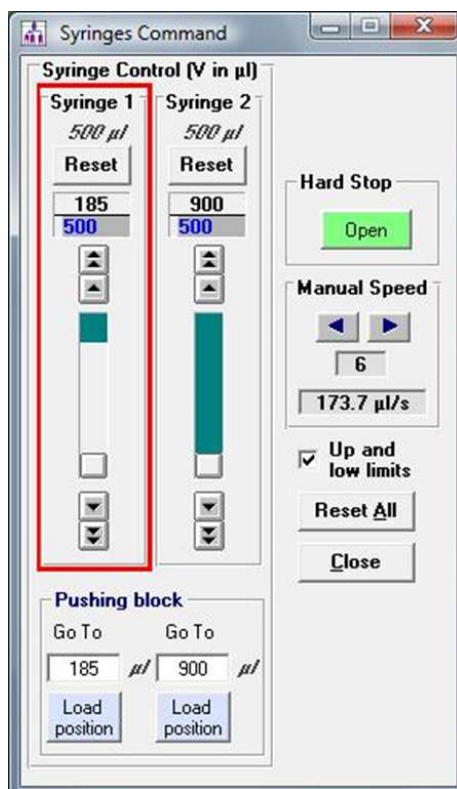

Figure 12: syringe control window
Syringe control from Bio-Kine is made through the  button in the stopped-flow status area. The window shown in Figure 12 is displayed. The MPS is then initialized, and communication is established between Bio-Kine software and the MPS unit. The message ‘MPS on line’ is displayed in a green window in the stopped-flow status area
The MPS-70/2 that controls the μSFM follows the movements of the syringes so that the actual residual volumes are displayed at all times (see Figure 12). When the MPS is turned on and the software started, the syringe volume counters show **Ref ?** and must be initialized.
- 2) Make sure the hard-stop is open  (Figure 12)
- 5) Reset (initialize) the syringes individually by pushing the **Reset** button for each syringe or all at once by pushing the **Reset All** button in the syringe control window (Figure 12).